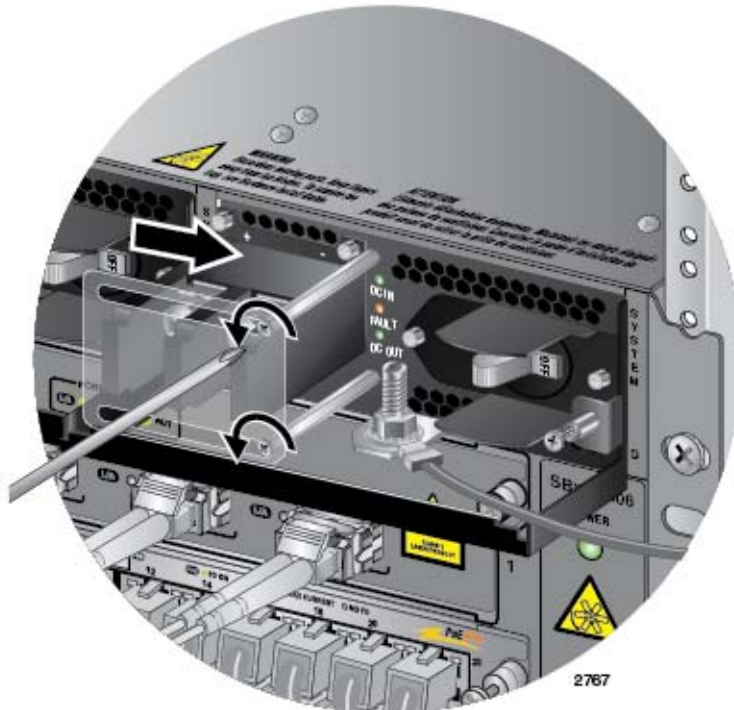

Figure 138. Opening the Plastic Cover
4. Use a #1 Phillips-head screwdriver to loosen the two screws on the plastic cover over the positive and negative terminals on the power supply and slide the cover to the right, as shown in Figure 138 on page 198. You may need to lift the locking handle slightly to access the bottom screw.
3. Use a #1 Phillips-head screwdriver to loosen the two screws on the plastic cover over the positive and negative terminals on the power supply and slide the cover to the right, as shown in Figure 138 on page 198. You may need to lift the locking handle slightly to access the bottom screw.